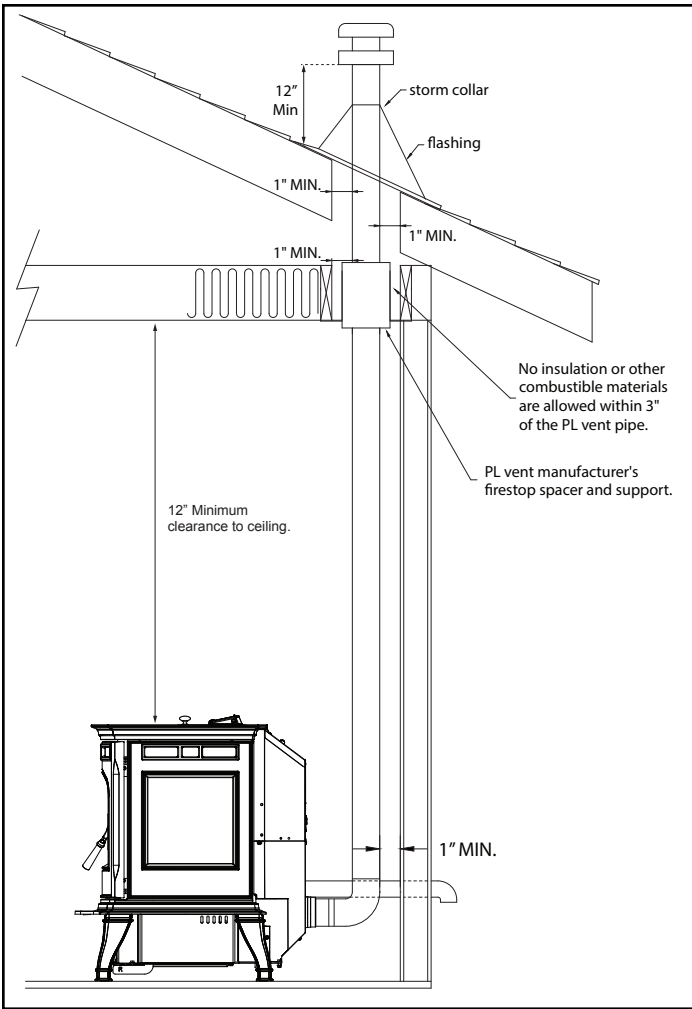

Figure 4.7
**#7 Installing through the ceiling (Figure 4.7)**